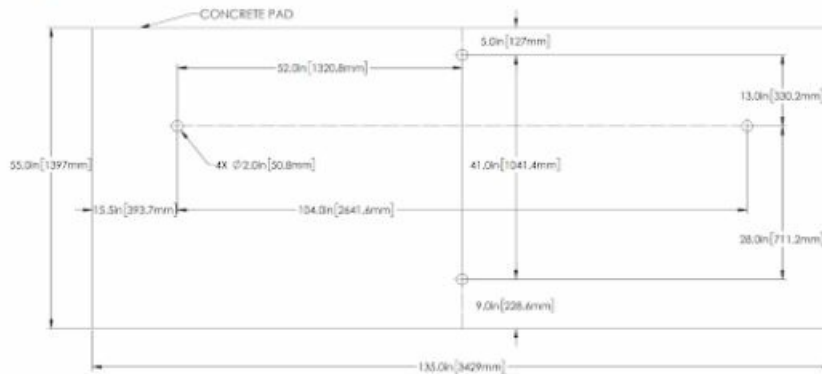

Figure 4: Hole Locations for a Wide Dual Lane System
- **Figure 4:** Hole Locations for a Wide Dual Lane System